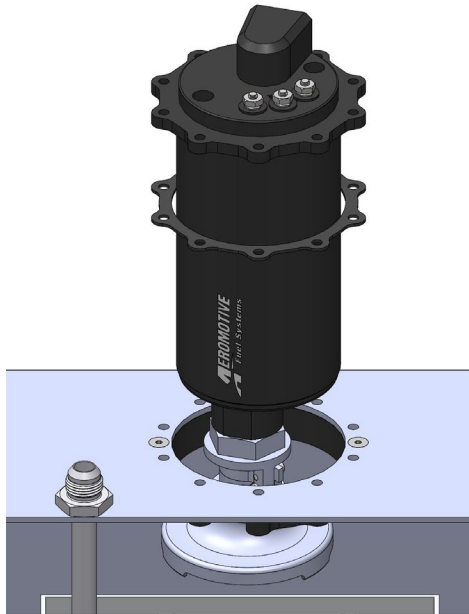

FIGURE 1-7
9. Insert the pump with gasket into the tank as shown in **Figure 1-7**.